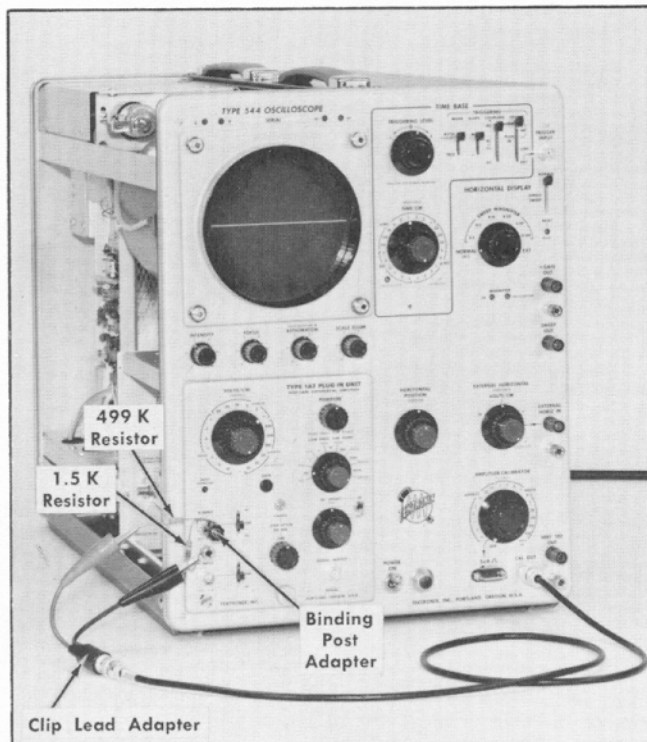

Fig. 6-14. Setup at completion of step 8e. Resistors used in this setup have tolerance of 1%.
a. Using the same procedure and setup (see Fig. 6-14) as described in steps 8b through 8f, set the Type 1A7 controls as follows: